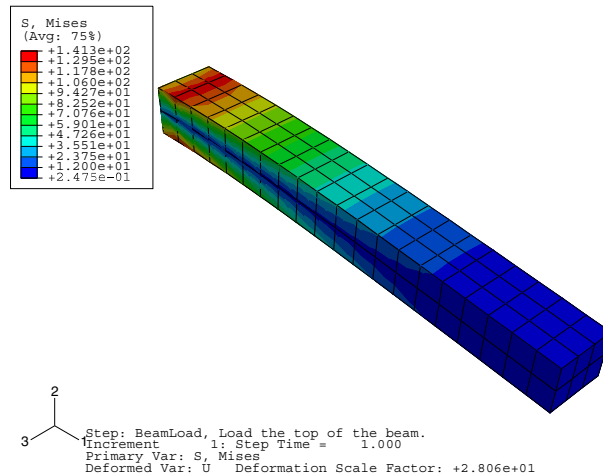

Figure B-15 Contour plot of Mises stress (title block suppressed).
4. From the main menu bar, select **Plot**→**Contours**→**On Deformed Shape** to view a contour plot of the von Mises stress, as shown in Figure B-15.